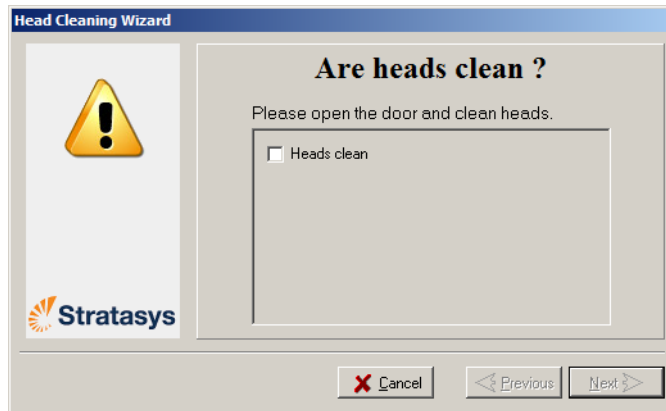

Figure 6-24: Head cleaning wizard—steps 5–11
11. When you have finished cleaning, select the confirmation check box in the wizard screen (see figure 6-24) and click Next.